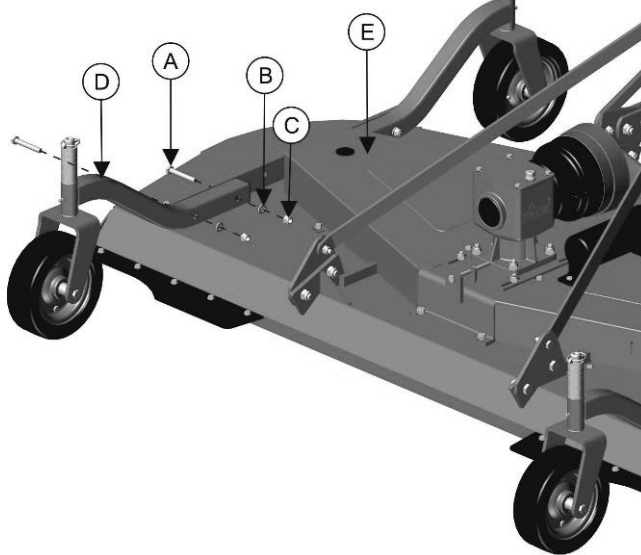

Figure 7
1. Remove the bolts [Figure 7, Item A], washer [Item B], and nuts [Item C] connect the front wheel arm to the rail [Item D] welded to the frame.